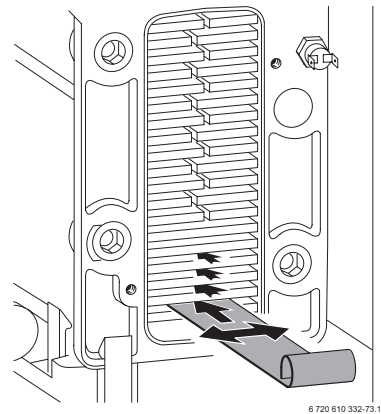

Fig. 48
- ▶ Loosen any deposits in the heat exchanger from top to bottom using the cleaning blade. Refer to fig. 48.